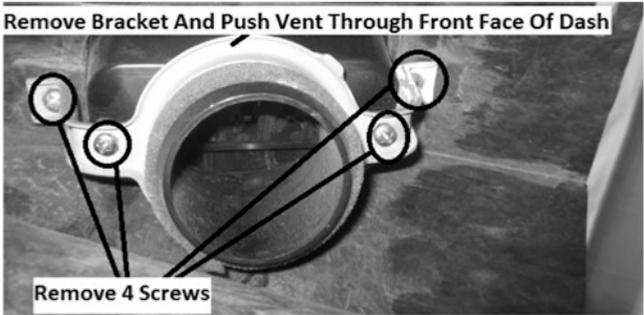

Figure 17-4
1. For each vent, remove the 4 screws securing the locating bracket in place (see Figure 17-4).